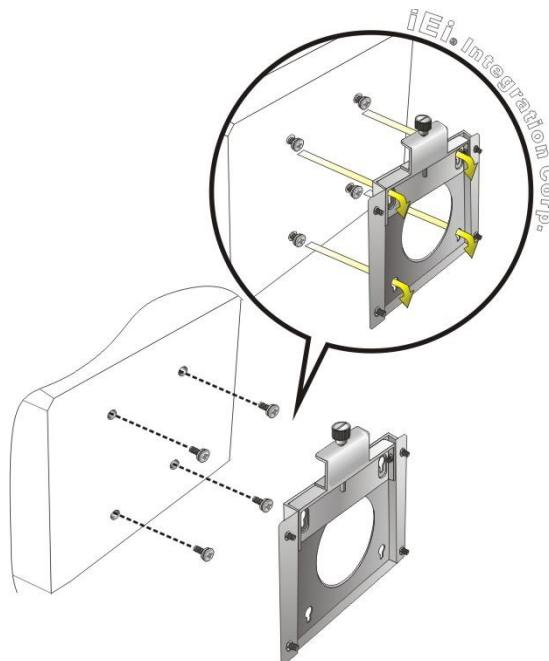

Figure 3-8: Chassis Support Screws
- Step 6:** Insert the four monitor mounting screws provided in the wall mount kit into the four screw holes on the real panel of the panel PC and tighten until the screw shank is secured against the rear panel (**Figure 3-8**).
Step 8: Carefully insert the screws through the holes and gently pull the monitor downwards until the monitor rests securely in the slotted holes (**Figure 3-8**). Ensure that all four of the mounting screws fit snugly into their respective slotted holes. Always keep the PPC2-xxx-ADLP in landscape orientation when mounting on the wall.